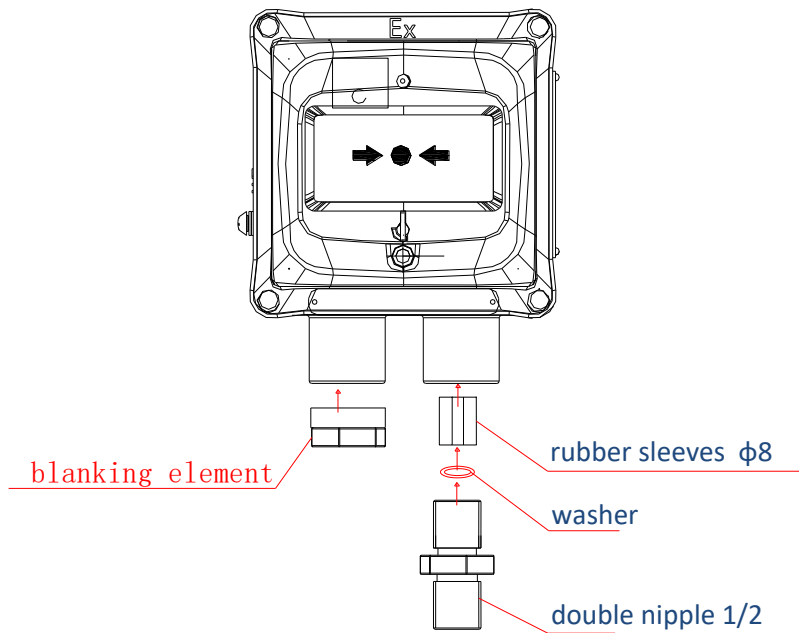

Fig. 4
- (1) Install and maintain the MCP in compliance with installation code applied to explosive hazardous areas.
- (2) It is prohibited to open the cover with power on in field.
- (3) The enclosure should be earthed.**
- (4) Special conditions for safe use: Repairs of the flameproof joints must be made in compliance with the structural specifications provided by the manufacturer. Repairs must not be made on the basis of values specified in tables 1 and 2 of IEC 60079-1.**
- (5) The screws used for the assembly must be of yield stress higher or equal to 700N/mm².**
- (6) The threaded entries comply with following parameters:**
- ✧ Position on the equipment: see Fig 4
- (7) One blanking element is delivered with the MCP and installed in back cover.**